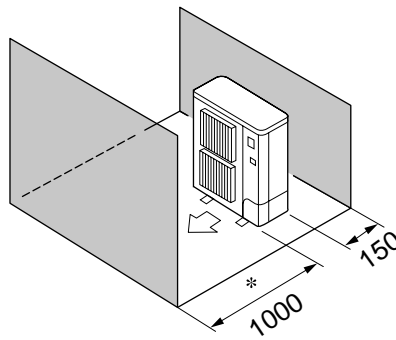

Fig. 2-8
- Obstacles at front and rear only (Fig. 2-8)